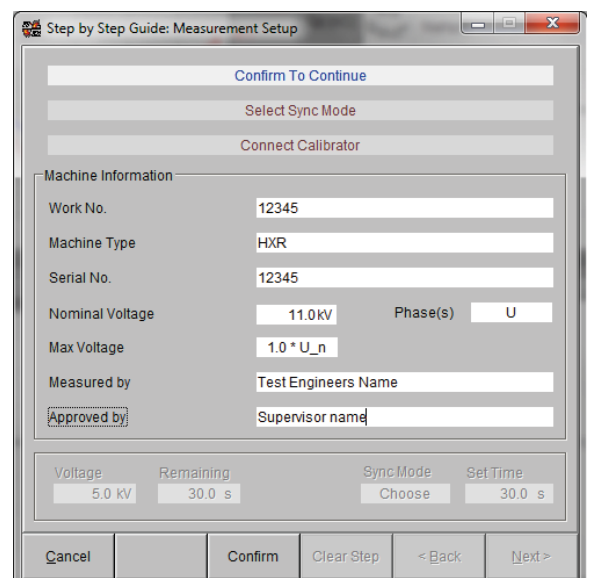

Figure 75: Measurement Setup Guide screen
**Step 1:** Figure 75 shows the screen for step 1. The user has to enter the general information such as: